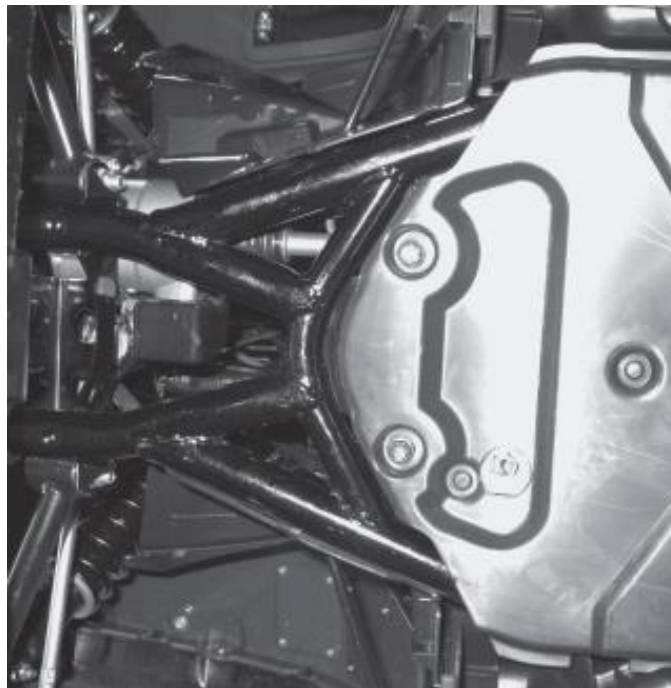

Figure 3
3. Place the u-bolts around the vehicle frame, Figure 3. The front of the skid plate must be pushed upward in order to slide the u-bolt around the frame member. Additional skid plate trimming may be necessary if there is any contact with the side u-bolts.